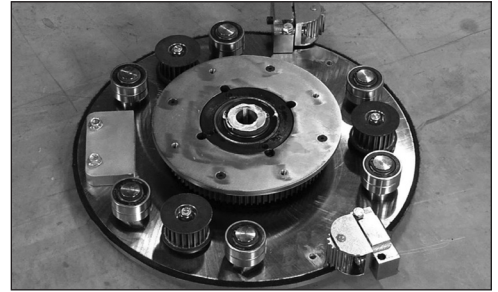

FIG. 4
1. Deck should now be in the orientation shown (Figure 4) before installing new belt, clean any debris from the deck before moving on.